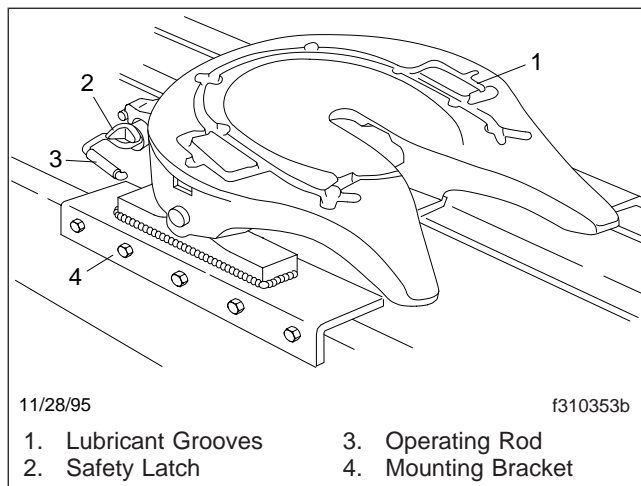
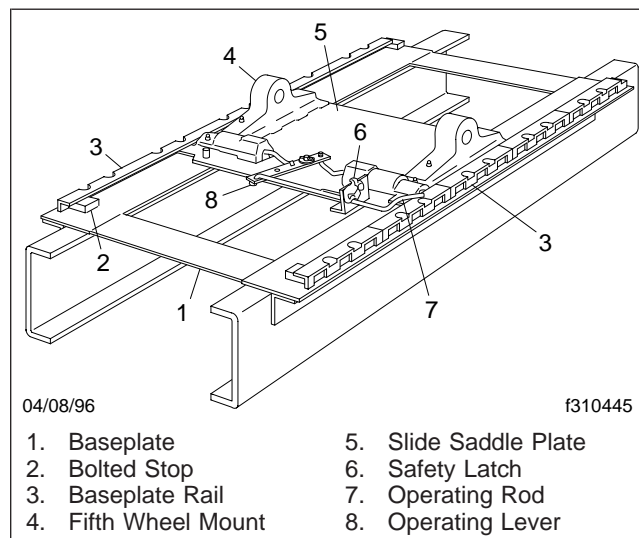

Fig. 10.10, Simplex Stationary Fifth Wheel
Fig. 10.11, Taperloc Slide, Manually-Operated Release
The ASF Castloc II and Simplex series fifth wheels are used for pulling trailers having the standard 2-inch diameter kingpin. When installed as a stationary fifth wheel (**Fig. 10.10**), they are bracket-mounted to the tractor frame in a position that best distributes the trailer load over the tractor axles. When used as a sliding fifth wheel (**Fig. 10.11**), they are mounted on the Taperloc® sliding mount (air-operated or manual release).
The manually-operated slide contains an operating rod (**Fig. 10.11**), which unlocks both sides of the plate at the same time.
Before attempting to lock the fifth wheel lock mechanism of a sliding type fifth wheel, the slide locking handle (Fig. 10.11) must be in the locked position. This prevents the sliding member from
Before attempting to unlock the fifth wheel lock mechanism of a sliding type fifth wheel, the slide operating rod (Fig. 10.11) must be in the locked position, and the slide lockpins must be in the locked position, fully inserted in baseplate rail slots. This prevents the sliding member from moving rapidly to the far forward or rearward position, which could damage the fifth wheel member or kingpin.
- 3.2 For manually-operated models, raise the safety latch and pull the slide operating rod (**Fig. 10.11**) outward until the shoulder is outside of the operating rod support, then lower the operating rod as far as it will go.